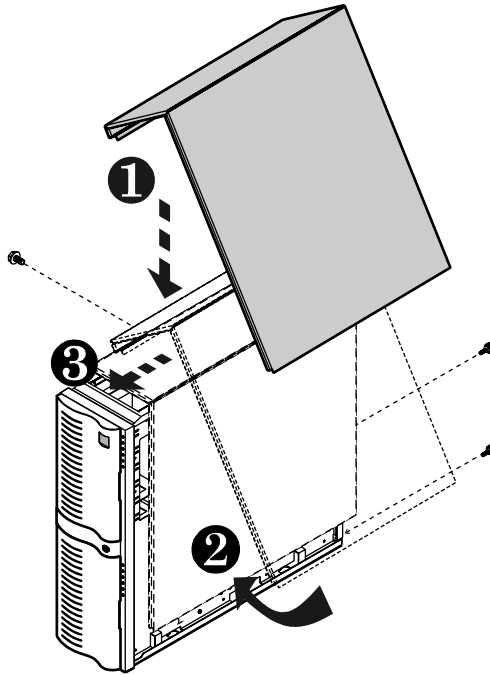

Figure 5: Reinstalling the Wrap-Around Panel
- Hold the wrap-around panel at a slight angle over the chassis as shown in Figure 5.